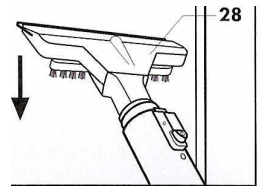

Fig. 17
- Press the rubber blade onto the surface and vacuum any water on the surface by moving the tool vertically from top to bottom (Fig. 17) .